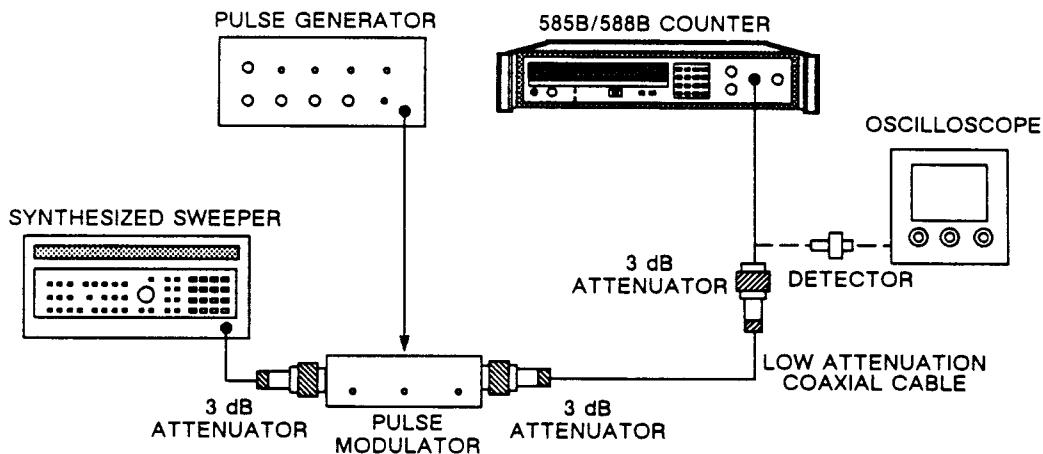

Figure 8-11. Band 2 Distortion Error Test Setup.
1. Connect equipment as shown in Figure 8-11. The 3 dB attenuators should be at IN and OUT ports of pulse modulator and at input to counter. Turn equipment on.